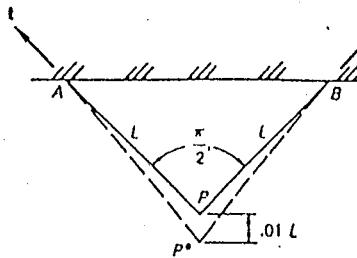

Fig. P2.32
2.32. A thin triangular plate is deformed as indicated in Fig. P2.32. Compute approximately the shear strain $\gamma_{tt}(P)$.